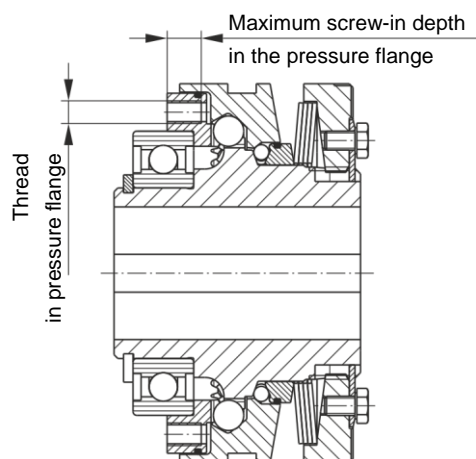

Fig. 7
Please observe the maximum permitted screw-in depth in the pressure flange (4) as well as the connection dimensions "a" and "e" for the output elements, see Figs. 7 or 8 and Table 17.